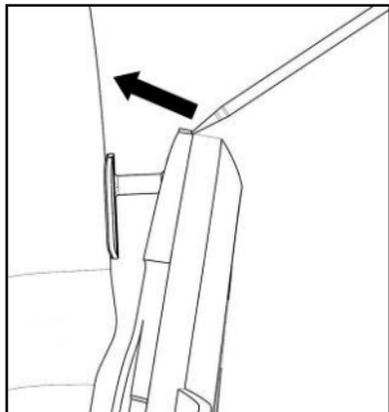

Fig. 11
- Lift the safety block of upper foot using a flat head screwdriver (or a similar tool), as indicated in Fig. 11.